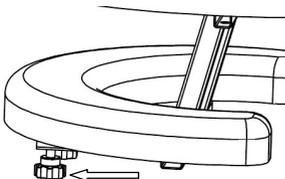

Figure 8
- Holding the pad of side armrest, you can rotate the side armrest left and right (Figure 8)
As shown in Figure 8, turn the knob (indicated by the arrow) to horizontally adjust the handrest; when adjusted to the desired position, tighten the knob (Figure 8).